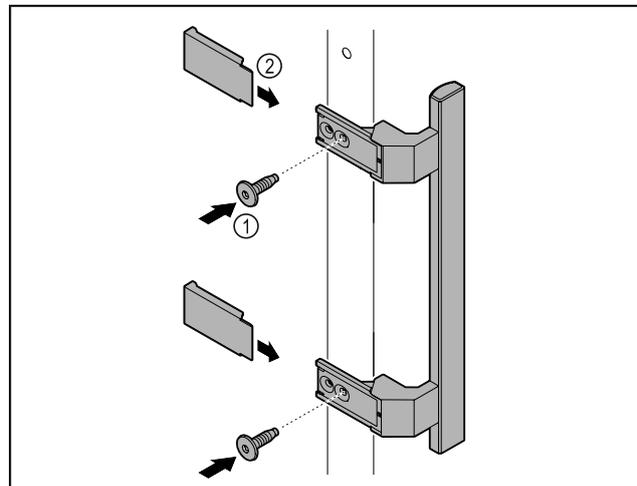

Fig. 49
- ▶ Attach handle from accessory kit to the door using the screws Fig. 49 (1) supplied.
- ▶ Put on cover Fig. 49 (2).